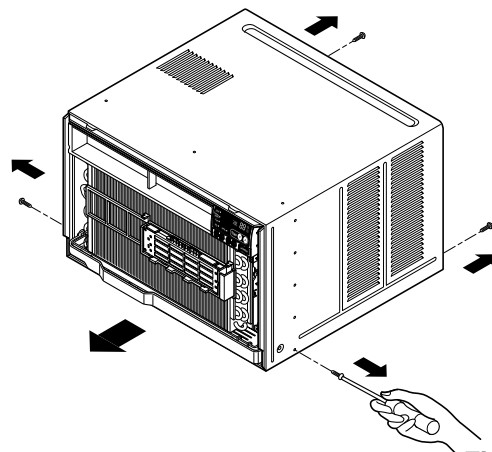

Figure 16
3. Pull the base pan forward. (See Figure 16)